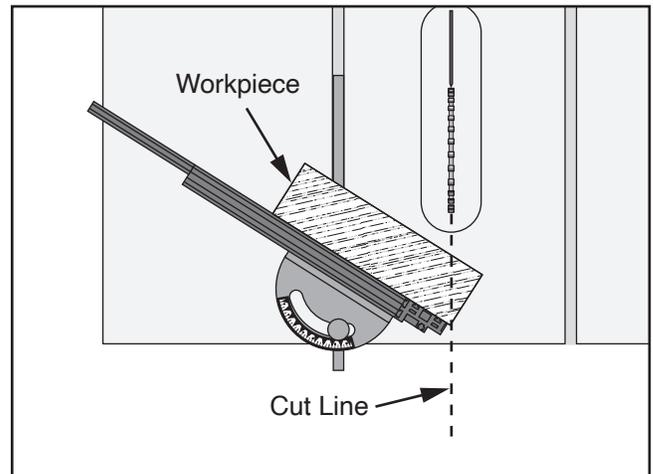

Figure 9. Workpiece prepared for cut (blade guard removed for clarity).
6. Place workpiece against miter gauge fence and table, aligning cut line with blade kerf (see **Figure 9**).